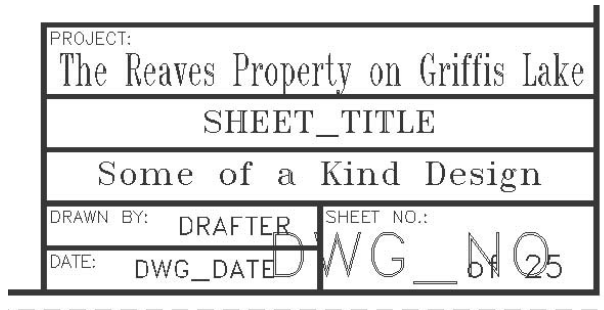

FIGURE B.32: The title block with field text inserted
13. Click OK. In the title block, use Endpoint Osnap to position the attribute definition at the upper endpoint of the marker line. Erase the marker line (see Figure B.32). It looks like Figure B.28 (shown earlier).